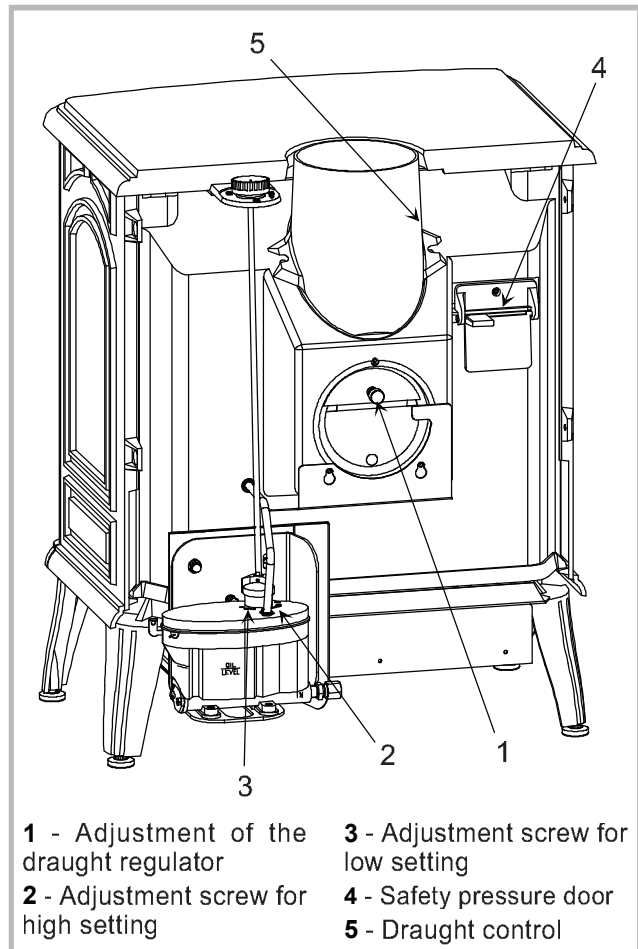

Figure 9 - Adjustment devices
A draft regulator (# 1, fig. 9, p. 6) ensures a constant air intake to the burner regardless of external factors.
### Minimum speed (# 3, fig. 9) :
### Maximum speed (# 2, fig. 9) :
The adjustment of the draught will be made with the barometric damper located at the back of the stove (# 1, fig. 9)
- The barometric damper (draught regulator # 1, fig. 9) should be checked at least once per year.